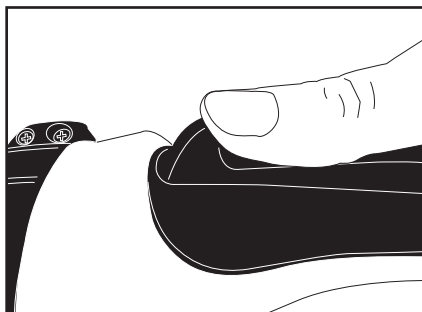

Figure 9
2. Push the trigger that your thumb rests on straight forward, this is the safety release. (see figure 9)